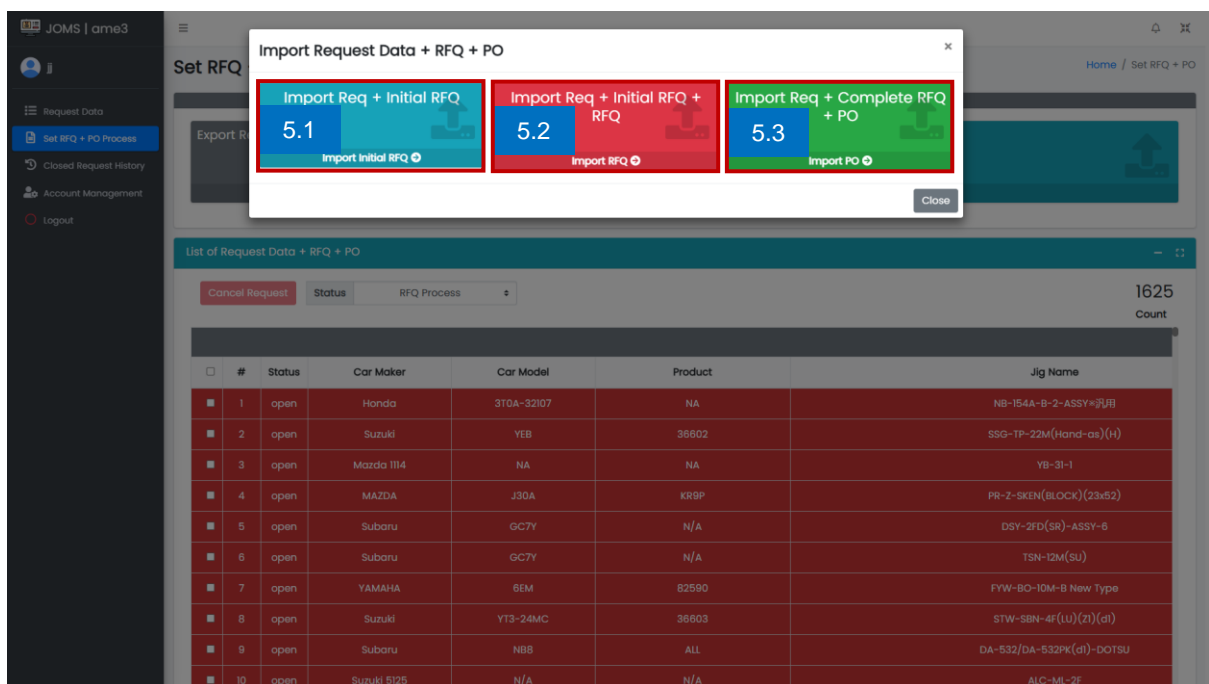

Figure 16. Import Request Data + RFQ + PO
5.1 Click Import Initial RFQ in import req + initial RFQ. (See Figure 16)
5.2 Click Import RFQ in import req + initial RFQ. (See Figure 16)
5.3 Click Import PO in import req + complete RFQ + PO. (See Figure 16)